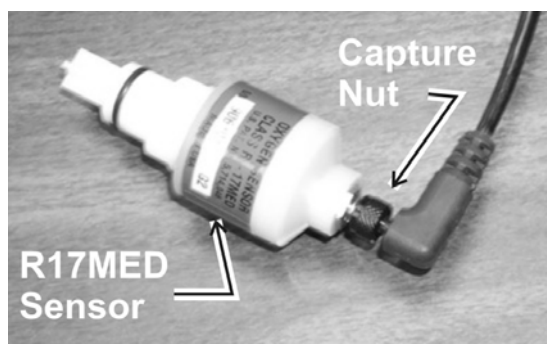

Figure 2-1: Installing the R17MED Sensor
| Figure 2-1: Installing the R17MED Sensor | 6 |
2. Plug one end of the coiled cable into the receptacle on the back of the R17MED sensor and secure it in place with the capture nut located at the base of the connector. See Figure 2-1.